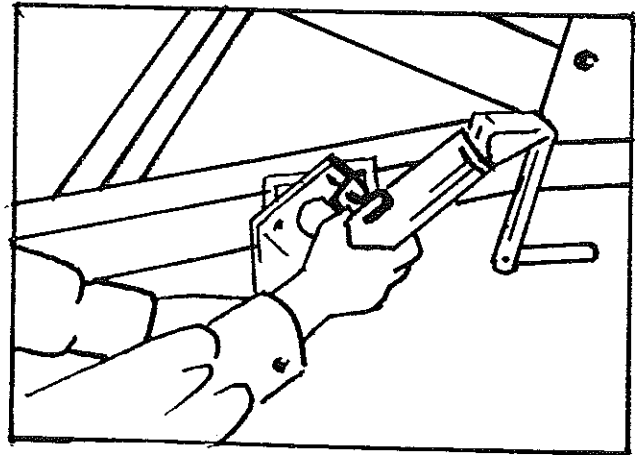

FIGURE 2
4. Pull the lock pin (located on the tongue jack) and let the tongue jack swing down into position. Allow the lock pin to lock the tongue jack in place in the top left hole in the brackets. See Figure 2.